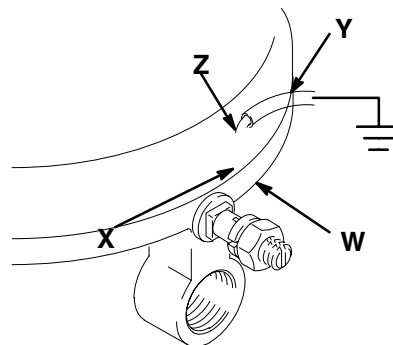

Fig. 1
- *Pump:* Use ground wire and clamp as shown in Fig. 1.
**To ground the pump,** loosen the grounding lug locknut (W) and washer (X). Insert one end of a 12 ga (1.5 mm2) minimum ground wire (Y) into the slot in the lug (Z), and tighten the locknut securely. Connect the other end of the wire to a true earth ground. See Fig. 1. To order a ground wire and clamp, order Part No. 222011.